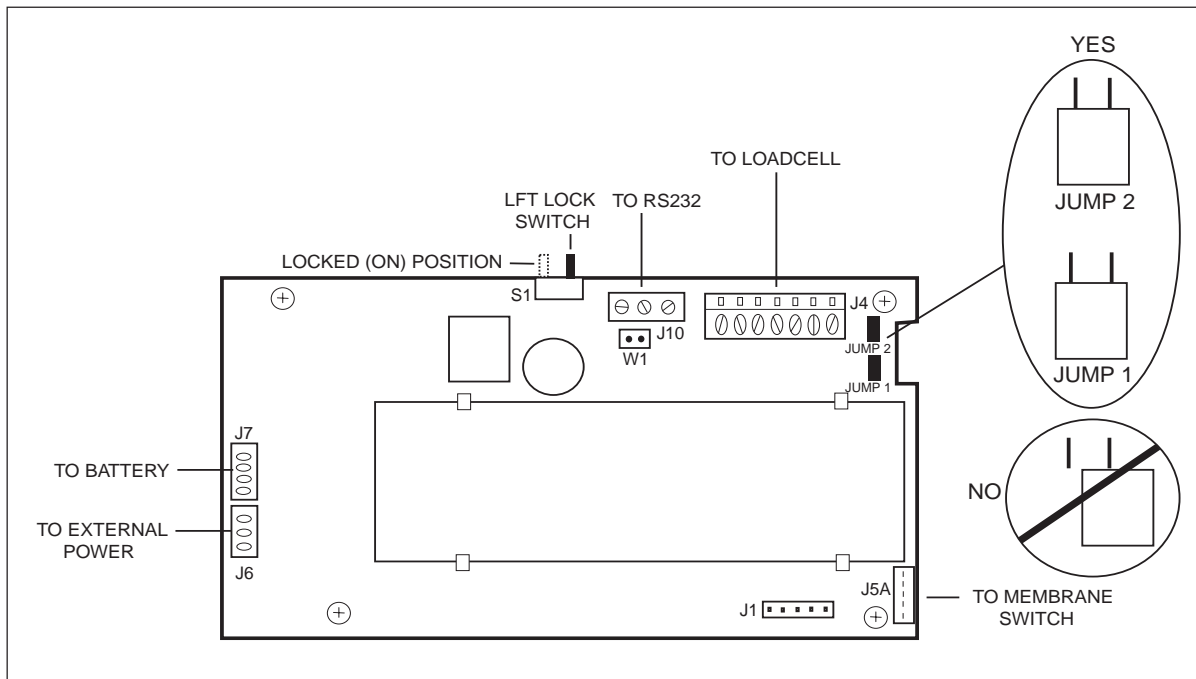

Figure 3-1. Trooper Scale Connector Locations.
2. Remove the connector plugs from J6 and J7 on the Main PC Board which is battery and external power. See Figure 3-1.
- NOTE:** Make sure that Jumper 1 and Jumper 2 are connected as shown in Figure 3-1.